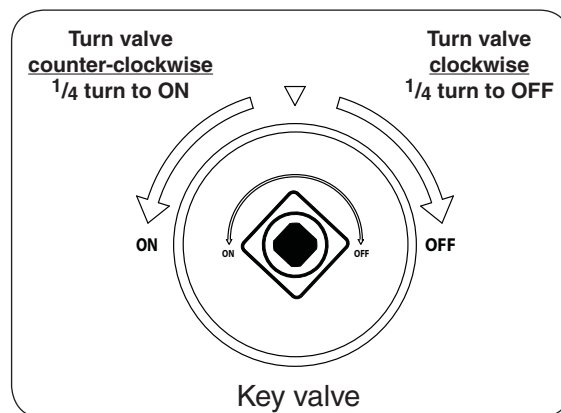

Fig. 23-2
4. **While holding the igniter button in, verify that the electrode spark is grounding to the flash tube, then gradually** turn the key valve counter-clockwise a $1/4$ turn to the **ON** position (see Fig. 23-2). Your burner should light.
To extinguish your gas burner, turn the key valve clockwise a $1/4$ turn to the **OFF** position (see Fig. 23-2). Be sure the control knob is turned fully off to avoid any gas leakage.